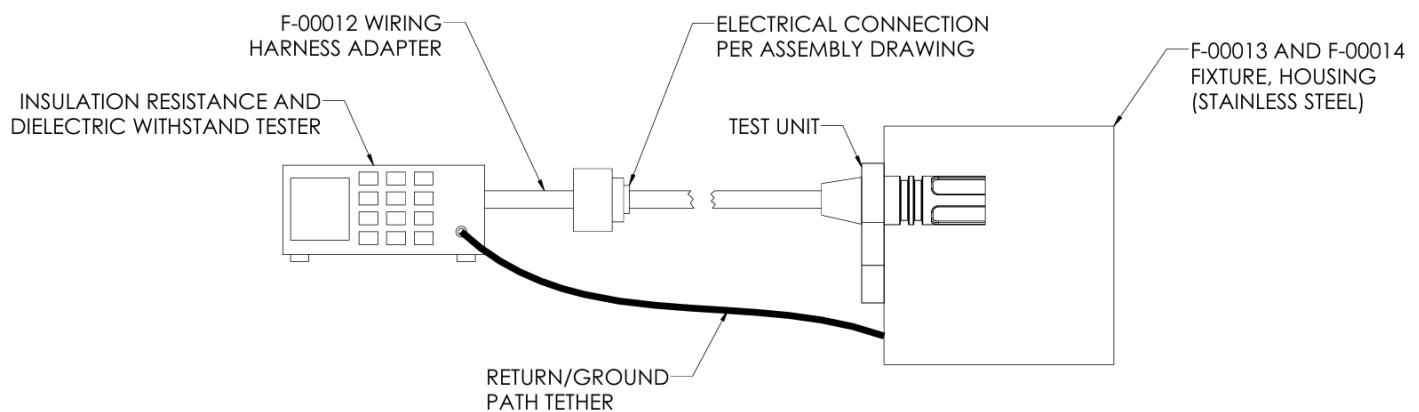

FIGURE 3: DIELECTRIC STRENGTH AND INSULATION RESISTANCE TEST SETUP
- 9.7.4 Connect all of the wire leads of the test unit to the high-voltage lead of the Insulation Resistance Tester. Use the F-00012 wiring harness adapter (see Figure 3).
- 9.8.4 Connect all of the wire leads of the test unit to the high-voltage lead of the Insulation Resistance Tester. Use the F-00012 wiring harness adapter (see Figure 3).